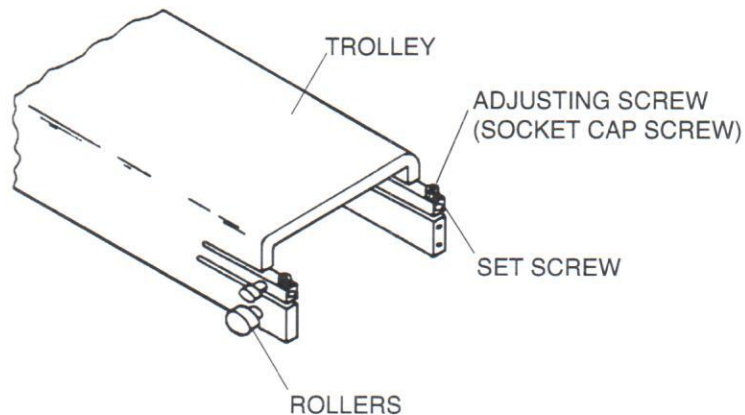

FIGURE 6
- 2.3.5. Check operation of trolley. It is factory adjusted to provide smooth effortless travel, without play; however, rollers can be readjusted if necessary. Loosen set screw and adjust socket cap screw to vary roller clearance. (SEE FIGURE 6.)